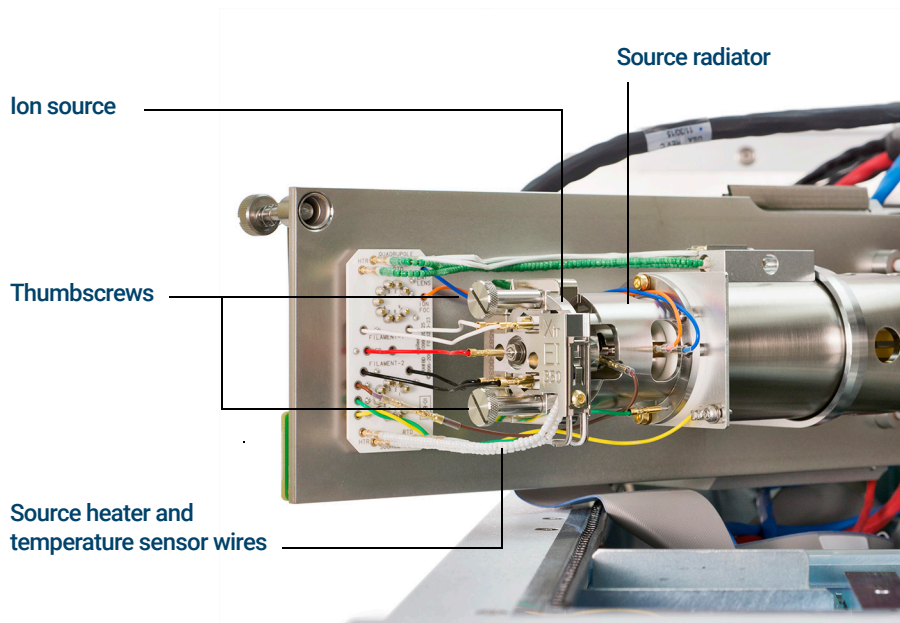

Figure 61. Installing the EI XTR source on a 7000 Series MS
- 3 Slide the ion source into the source radiator. (See **Figure 61** on page 188.)
- 4 Install and hand-tighten the source thumbscrews. Do not overtighten the thumbscrews. (See **Figure 61** on page 188.)